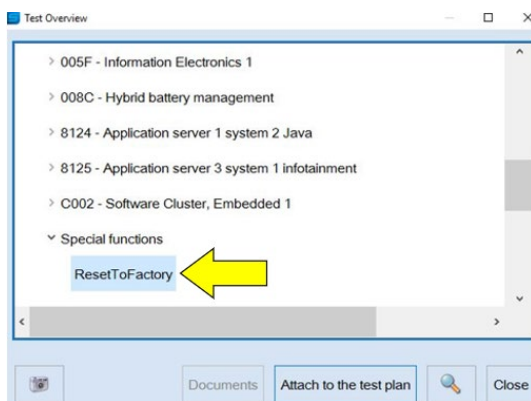

Figure 16: Factory Reset
- Select “1. ECU Reset (to Factory Setting)” (see figure 16)